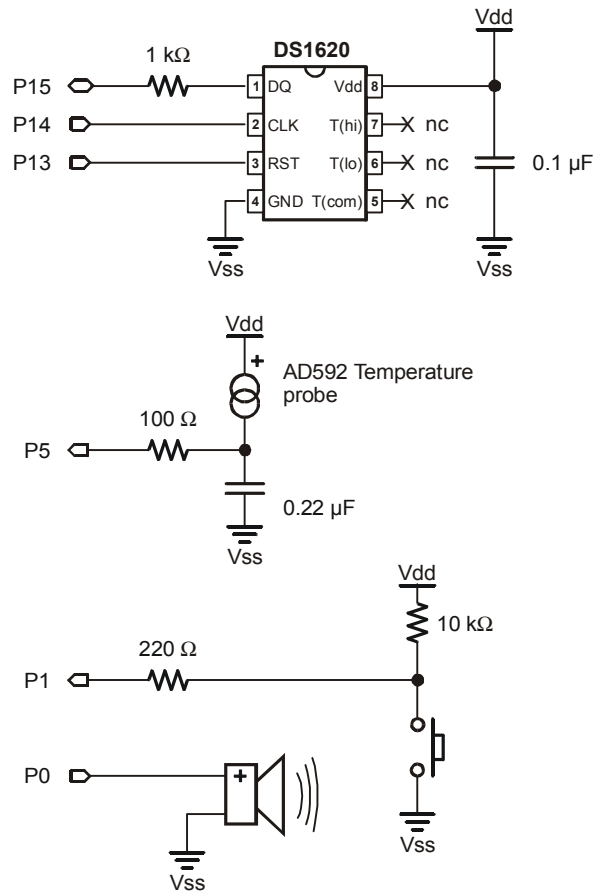
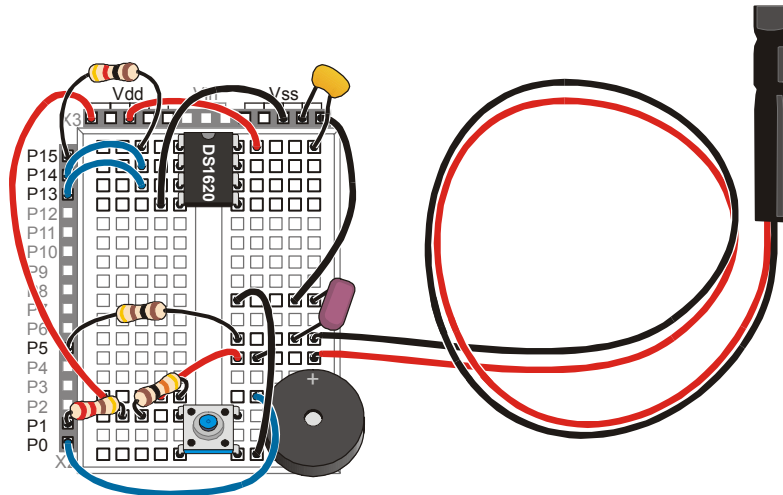

Figure 3-8
Figure 3-9: AD592 Temperature Sensor and RC-time Wiring Diagram
- ✓ Build the circuit shown by the schematic Figure 3-8 and the wiring diagram in Figure 3-9.